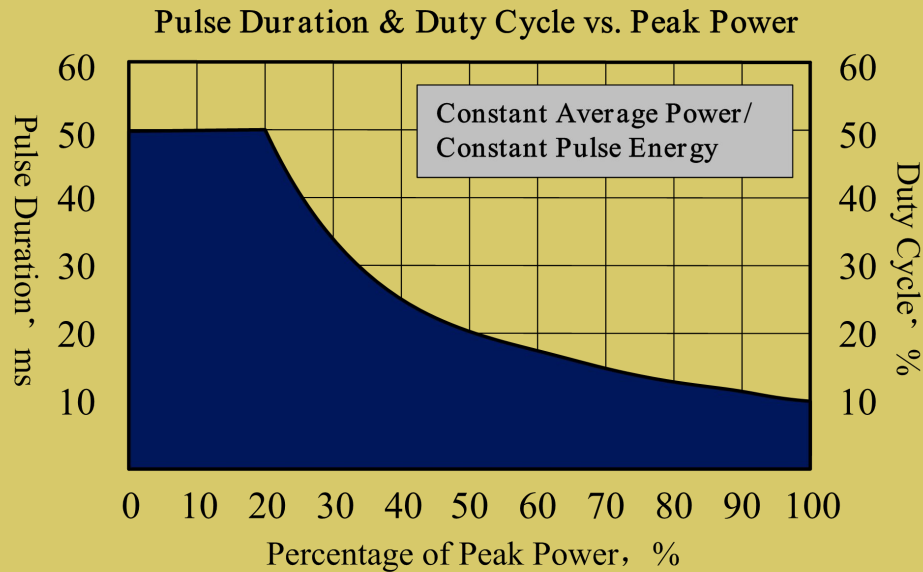

Figure 16 PULSE mode Operational range
- In PULSE mode, the maximum pulse duration and the maximum duty cycle are limited to certain values (refer to Figure 16 PULSE mode operational range).